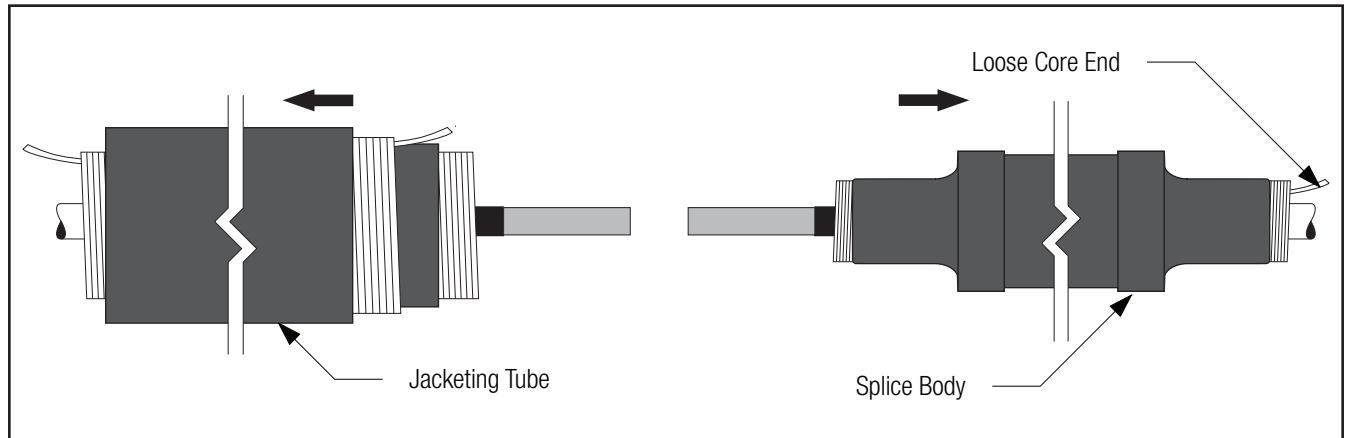

Figure 10
- 3.1 Clean or cover cable jacket if necessary, for cold shrink parking position. Slide jacketing tube onto one cable end. Slide splice body onto opposite cable, loose core end first. For size transitions, park splice on smaller cable (*Figure 10*).